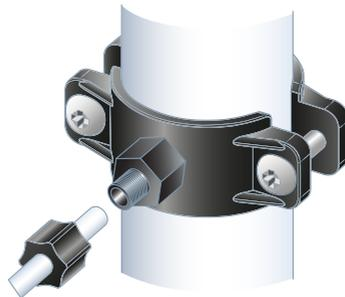

Figure 9b. Drain saddle installation
3. Remove the cut circle from the sealing gasket (1).
4. Remove the protective tape (2) from the sealing gasket (1). Place the sealing gasket (1) on the collar inner side, so that the hole in the gasket meets the hole in the collar fitting.
5. Install the collar onto the pipe, carefully aligning the hole in the fitting with the drilled hole; tighten the bolts (3). The bolts must be tightened evenly in such a way that the two parts of the collar are located in parallel.
6. Put the plastic nut onto the JG drain tube (1/4", black) so that the tube is protruding from the other side of the nut by a length of 20 mm (see figure 9b).